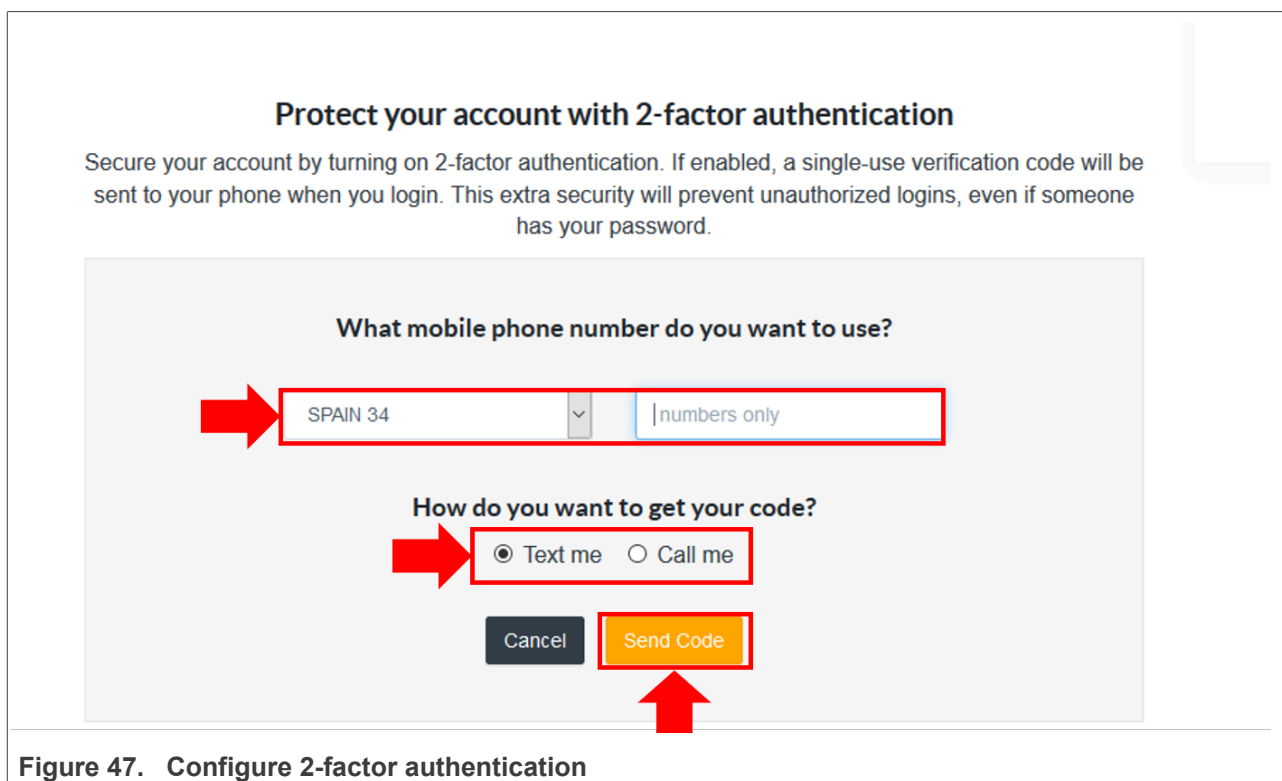

Figure 47. Configure 2-factor authentication
3. In the new page that appears, insert your mobile phone number and decide if you want to receive the 2-Factor authentication code by SMS or by phone call, then click on the *Send Code* button as shown in Figure 47: